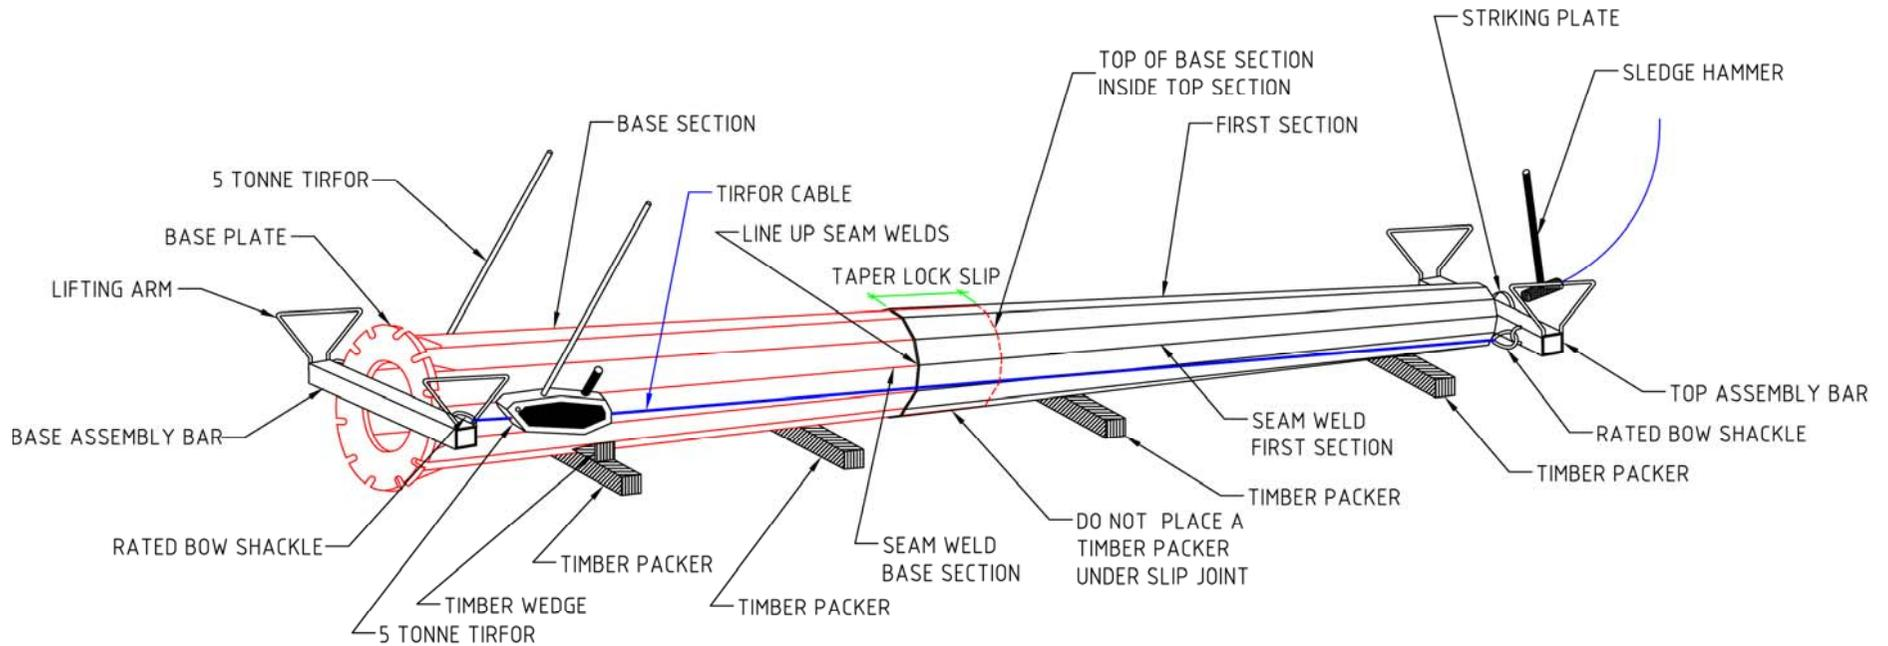

FIGURE 2
3. Ensure the seam welds of the top and bottom sections are aligned. Then slide the female end of the section over the male end of the lower section as far as can be achieved using hand force only. Once this is achieved, two Tirfors as shown in the diagram above are to be used to assemble the two sections. This is achieved by positioning one Tirfor on either side of the column. Each Tirfor must be operated in coordination to ensure that the telescoping of the sections proceed evenly about the column axis. (See Figure 2) below.